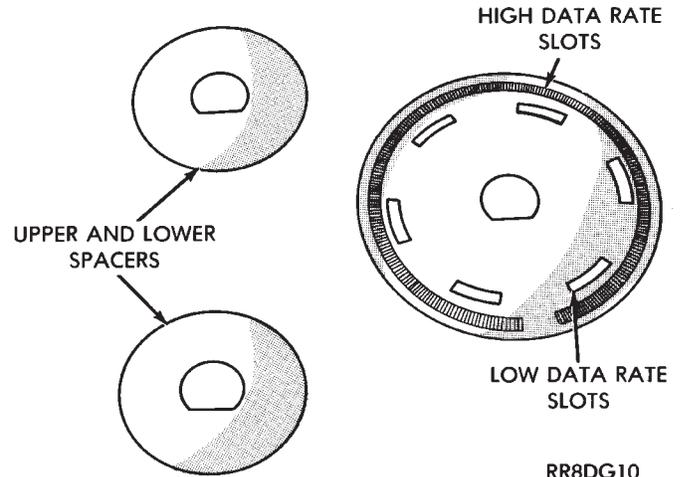
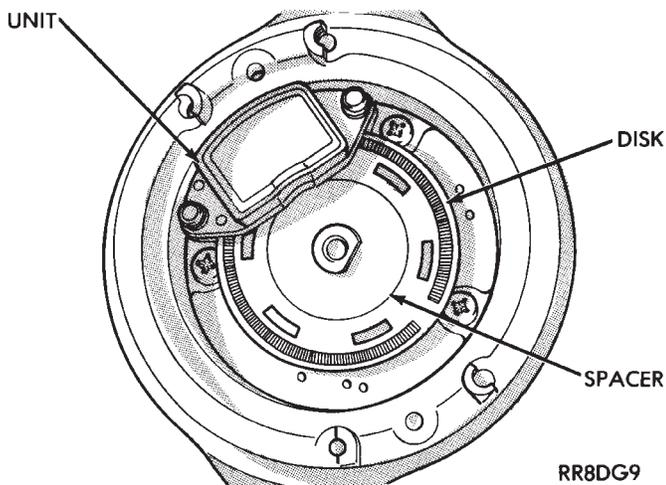

Fig. 29 Disk and Spacers
Fig. 28 Disk and Spacers Installed
(7) Remove disk spacers and disk (Fig. 28). Disk and spacers are keyed. Check disk for warpage, cracks or damaged slots (Fig. 29).